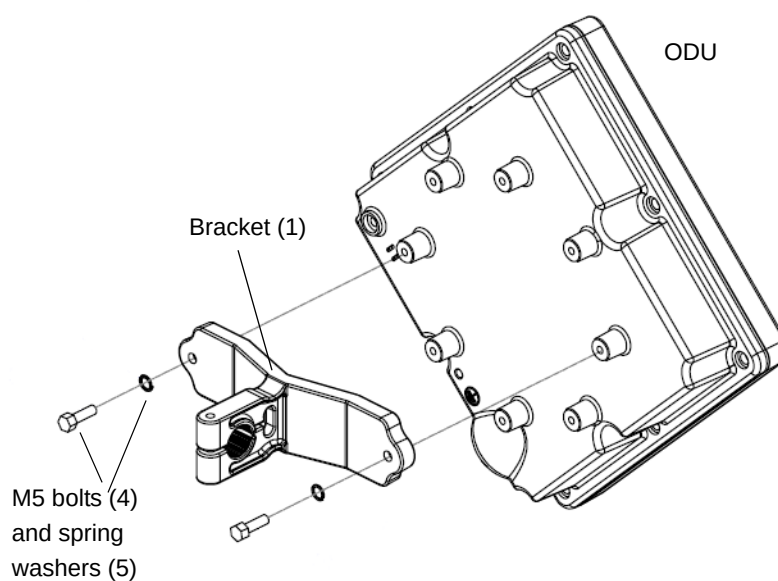
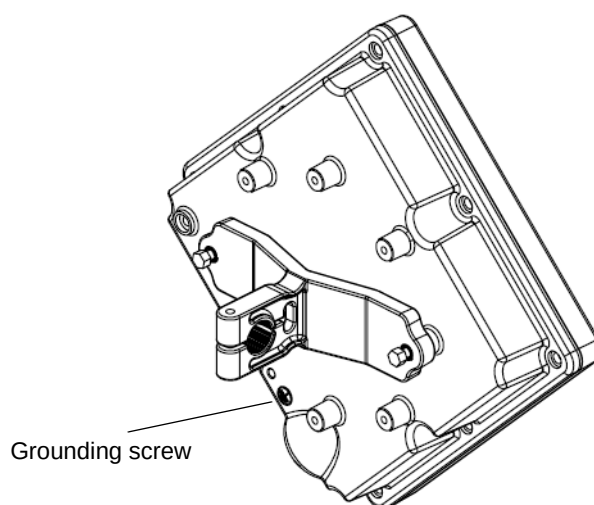

Figure 4: Attaching the Bracket
Figure 5: Bracket Assembled on ODU
- 1 With the connector facing downward, attach the bracket (item 1) to the two designated holes at the rear of the ODU, as shown in Figure 4. Use the two M5*16mm bolts (item 4) and M5 spring washers (item 5). The assembled bracket is shown in Figure 5.
The Grounding screw (marked $\perp$) is located on the rear panel of the ODU (see Figure 5).